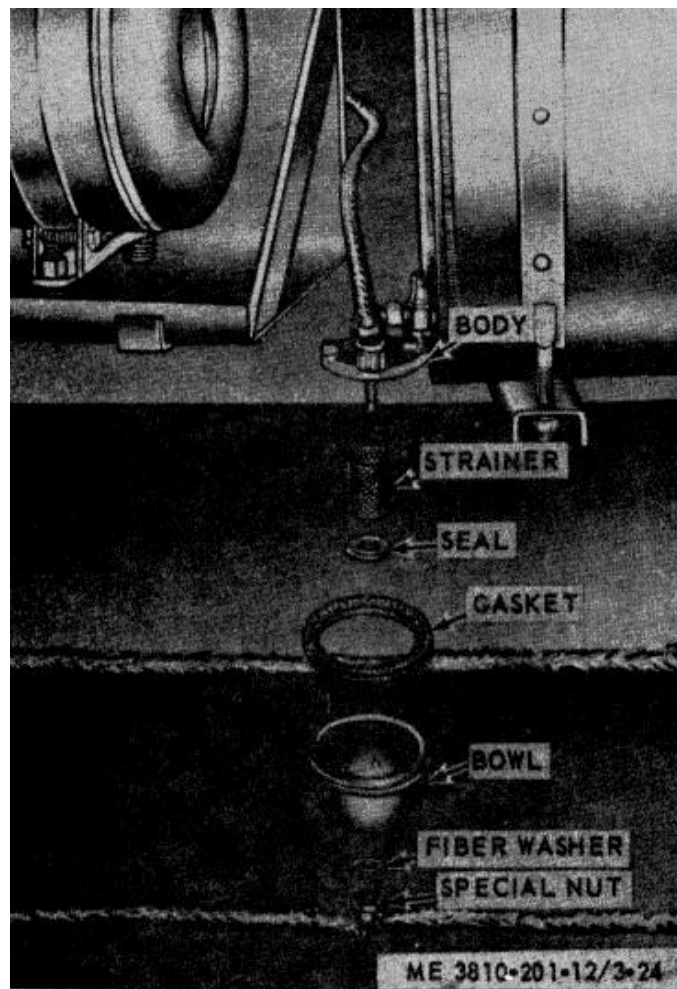

Figure 3-24. Heater fuel strainer service (winterized models).
- a. Remove special nut (fig. 3-24) and fiber washer that secures bowl to body.